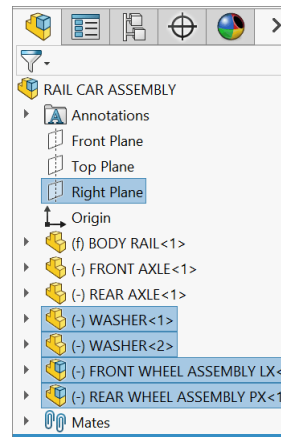

Fig. 24
Step 1. **Ctrl click Right Plane** , both **Washers** and **Wheel Assemblies** in the Feature Manager, **Fig. 24**. To Ctrl click, hold down the Ctrl key and click Right Plane , both Wheel Assemblies and Washers.